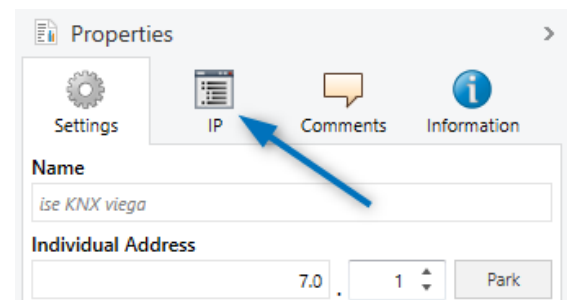

Figure 4: Device properties dialogue of the ETS
2. Display the device properties in the sidebar on the ETS as shown in Figure 4.